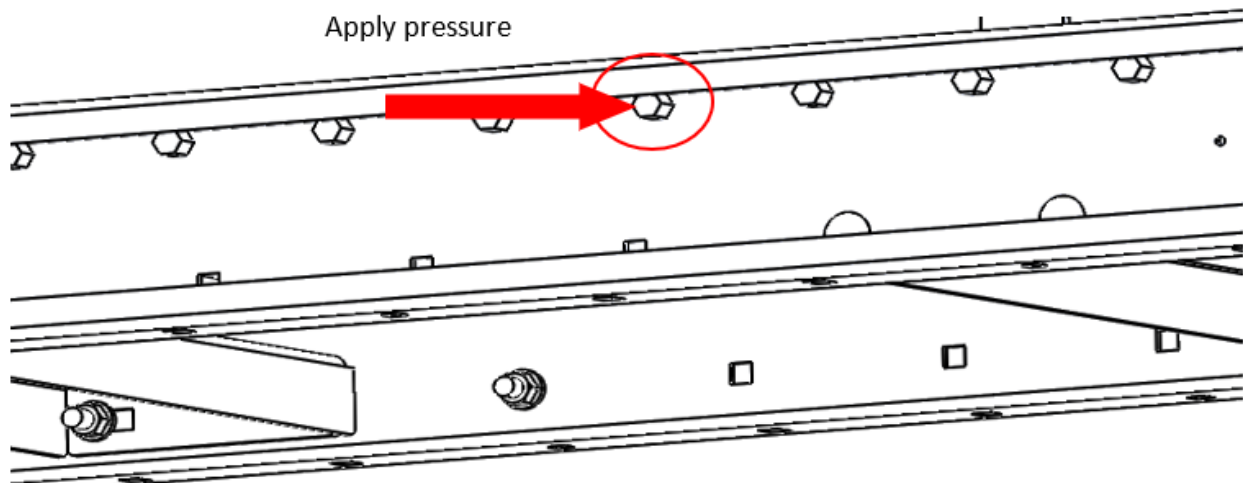

Figure 39: Roller Removal-3
4. Apply pressure on the end of the hex shaft on the non-band side with a small diameter punch or similar tool until the shaft clears the frame (Refer to Figure 39).
5. Lift the roller body until the hex is sitting above the side frame. Refer to Figure 39. (A putty knife or other flat surface tool is recommended to be placed between the hex shaft and the inside of the frame. This will help protect the paint on the side frame.)